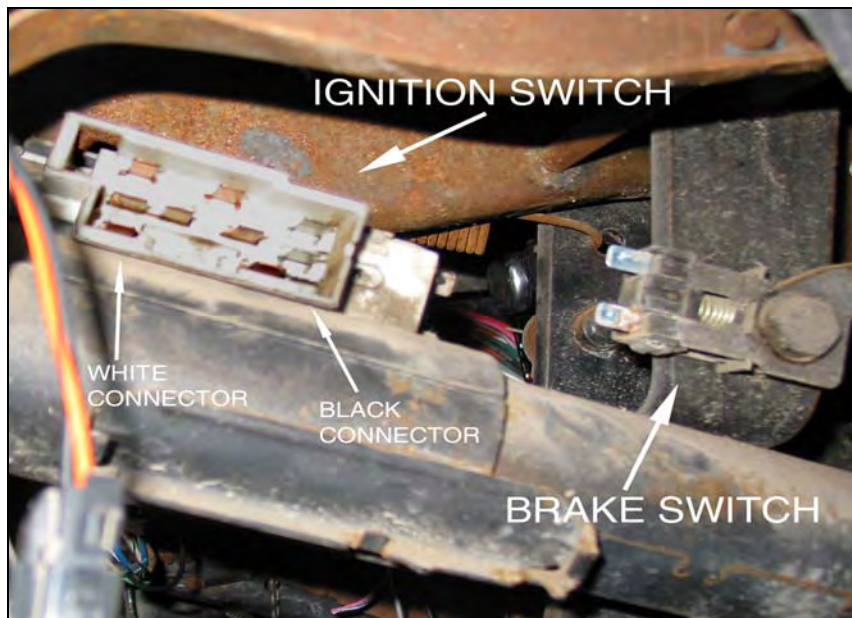

Figure 7.4.4 *Ignition Switch & Brake Switch Connections*
- 7.4.4 The IGNITION SWITCH consists of two connectors; both are installed on the new Painless harness. The black connector will need to be installed first. Locate the IGNITION SWITCH connecting point on the top of the steering column. The Black connector goes into position on the end closest to the firewall. The White connector installed on the other group of IGNITION SWITCH wires will need to go on the end closest to the steering wheel and must only be installed after the Black connector is in its place. Use **Figure 7.4.4** for reference.
- 7.4.5 The two BRAKE SWITCH wires come with a connector already installed. Locate the BRAKE SWITCH at the top of the brake pedal near the steering column. (see **Figure 7.4.4**) The BRAKE SWITCH is not polarity specific so it does not matter which way the connector is installed.